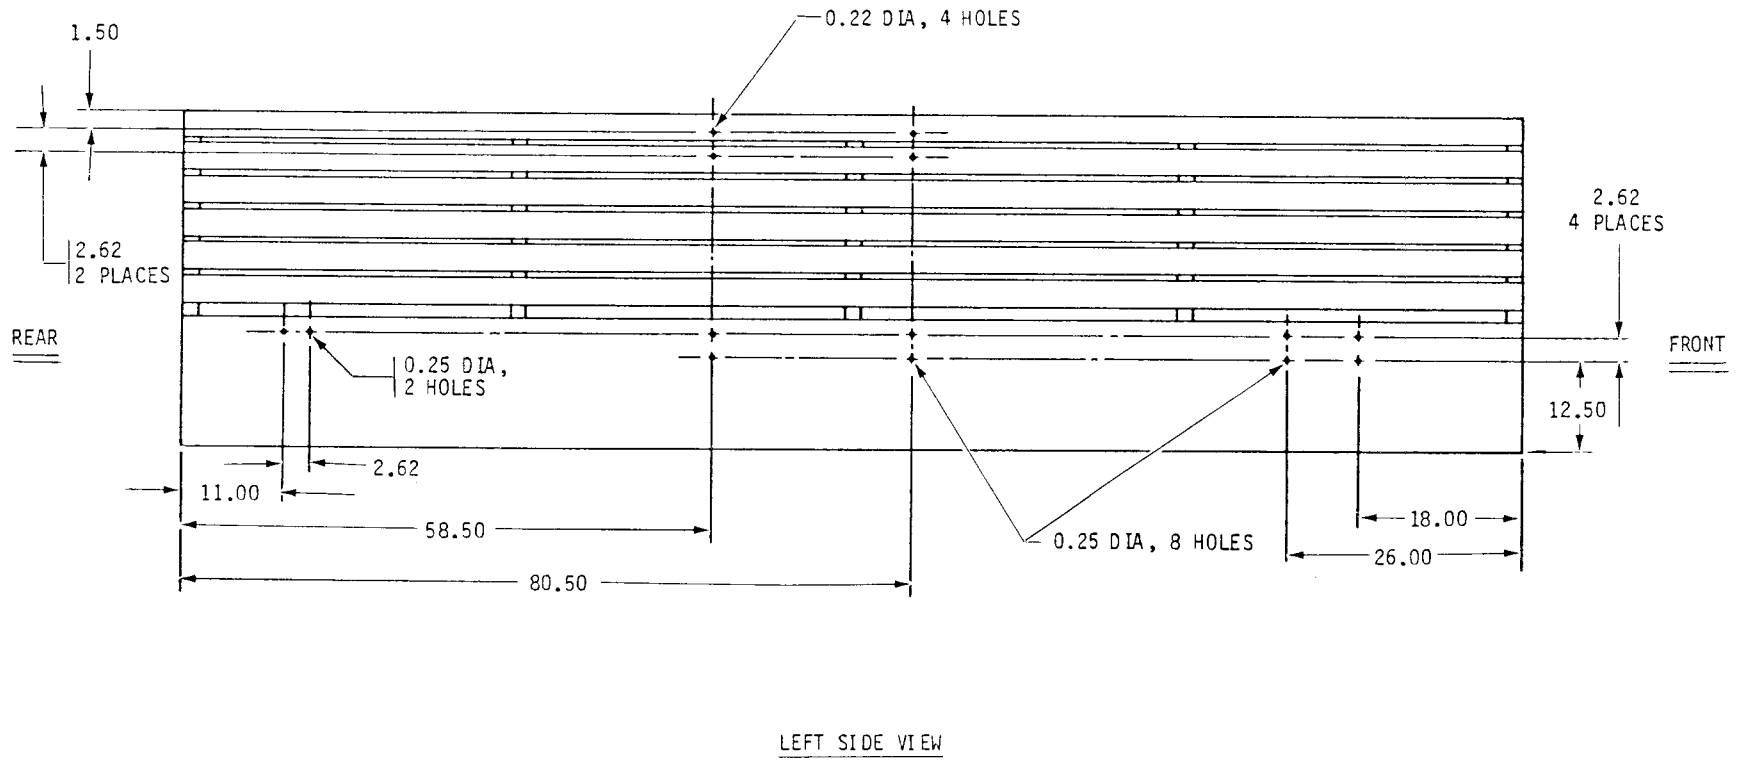

Figure 4. Hole Dimensions for Blind Rivet N: and Strap Loops, Unit 1, M35A2, Left Side View
a. Mark and drill thirty 0.25-in. diameter holes for blind rivet nuts in the metal walls of units 1 and 2 in accordance with figures 4, 10, and 12. Install thirty #10 blind rivet nuts (MS27130-A27) in the holes.
b. Install fifteen strap loops (MS51939-3), using thirty #10 x 1-in. countersunk head machine screws (MS35190-275), in the blind rivet nuts in units 1 and 2 in accordance with figures 4, 10, and 12.
d. Drill four 0.22-in. diameter holes through wooden slats of truck in accordance with dimensions shown in figure 4, unit 1. Secure two strap loops (MS51939-3) to wooden slats, using four #10 x 1-1/4-in. countersunk head machine screws (MS35190-276), four 7/32-in. flat washers (MS27183-42), four #10 lockwashers (MS35338-43), and four #10 hex nuts (MS35649-202).